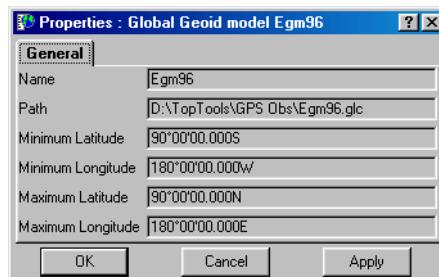

Figure A-3. Global Geoid Model Properties
4. To check the installation, right-click the global geoid on the ***Geoids List*** dialog box and click **Properties** on the pop-up menu. The **Properties** dialog box displays the selected geoid's information (Figure A-3).